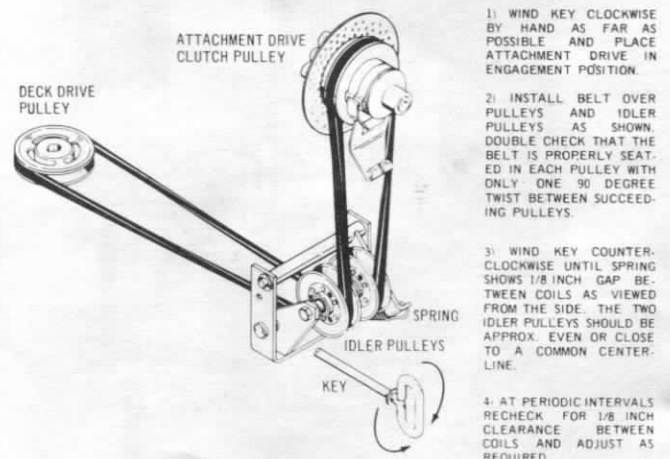

FIGURE 5
3. Drive Belt Tension. See Figure 5.
10. Check to make sure the belt is properly located in each pulley. Turn the adjusting crank counterclockwise to tension the belt until the idler spring coils open $\frac{1}{8}$ inch (approximately the thickness of two nickels. See Figure 5 and 14.) Disengage the attachment drive lever and reconnect the spark plug wire(s).